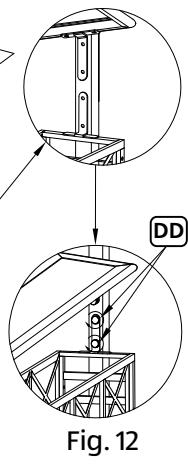

Fig. 13
Insert two M6x15mm Bolts (AA) through Bottle Opener (R), and into bolt-threading inserts near the center of Pole (A), see Fig. 13.